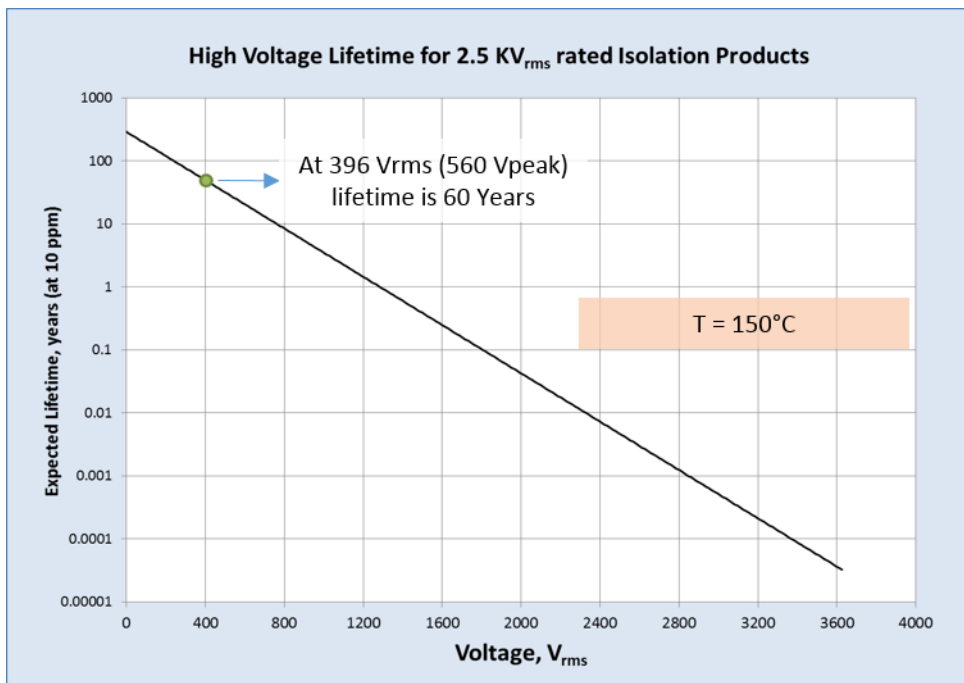

Figure 2.2. Si86xxxB Time-Dependent Dielectric Breakdown
- Updated Figure 2.2 Si86xxxB Time-Dependent Dielectric Breakdown on page 6.